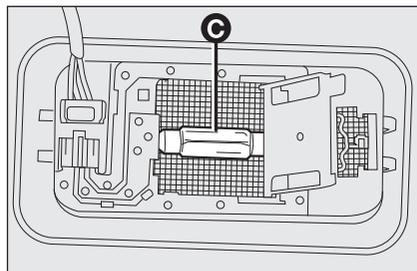

fig. 27
- replace bulb **C**-fig. 27 releasing it from the side contacts, then insert the new bulb making sure it is correctly clamped between the contacts;